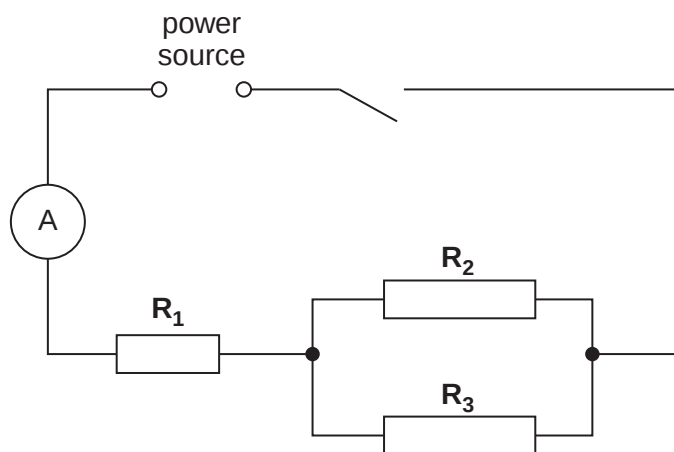

Fig. 3.1
- (vi) Sufficient connecting leads to set up the circuit shown in Fig. 3.1 plus two additional leads.
1. The circuit is to be set up for the candidates as shown in Fig. 3.1 with the additional leads and the voltmeter within easy reach.
3. The resistors must be labelled R_1 , R_2 and R_3 and positioned in the circuit as shown in Fig. 3.1.
Check that the circuit is as shown in Fig. 3.1.